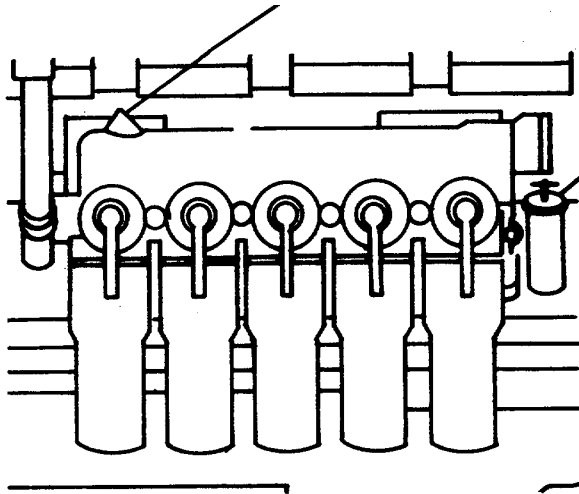
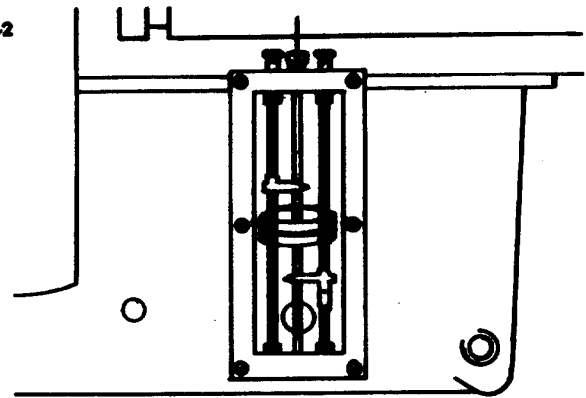

FIGURE 2-1. Lube Oil Priming Point and Oil Fill/Dipstick Arrangement.
FIGURE 2-2. Oil Level Sight Glass.
- (2) **Priming the Lubricating System.** The engine is primed automatically by an external electrically driven pump. However, in the event of problems in the self priming system, the following procedures should be performed before starting the engine:
- (b) Fill crankcase until oil on dipstick (2, FIG. 2-1) or in liquid level gauge (FIG. 2-2) reaches the "H" (High) mark.
- (c) Remove plug (1, FIG. 2-1) from lubricating oil filter head and use this opening as the priming point.
- (e) Insert dipstick (2, FIG. 2-1) into gauge tube until fully seated; hold for 5 to 10 seconds, then withdraw slowly.